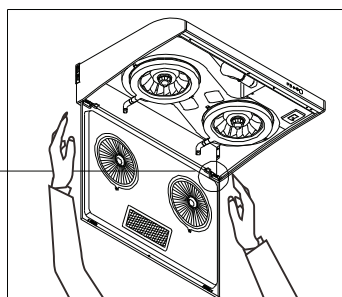

Fig. 4-8
- a. Assemble the bottom plate, hold it both sides and title to one side, the puller should be insert to the groove which on the back of Range Hood. (fig. 4-8/4-9)